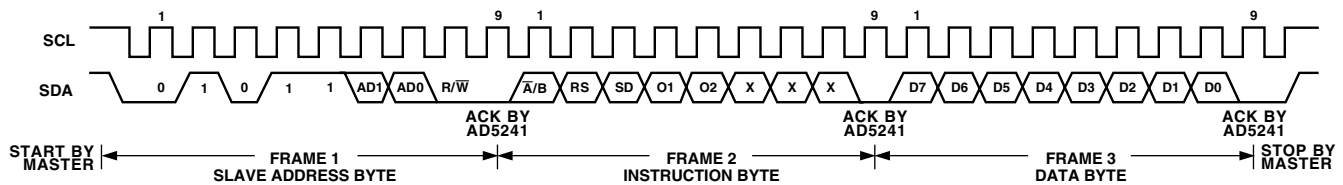
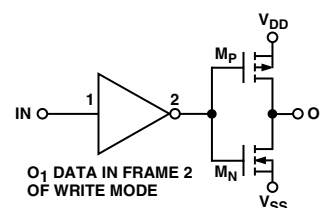

Figure 2. Writing to the RDAC Serial Register
Figure 7. Output Stage of Logic Output O_1
Referring to Figures 2 and 3, the first byte of AD5241/AD5242 is a Slave Address Byte. It has a 7-bit slave address and a R/ \overline{W} bit. The 5 MSBs are 01011 and the following two bits are determined by the state of the AD0 and AD1 pins of the device. AD0 and AD1 allow users to use up to four of these devices on one bus.
1. The master initiates data transfer by establishing a START condition, which is when a high-to-low transition on the SDA line occurs while SCL is high, Figure 2. The following byte is the Slave Address Byte, Frame 1, which consists of the 7-bit slave address followed by an R/ \overline{W} bit (this bit determines whether data will be read from or written to the slave device).
bits are O_2 and O_1 . They are extra programmable logic output that users can use to drive other digital loads, logic gates, LED drivers, and analog switches, etc. The three LSBs are DON'T CARE. See Figure 2.
- After acknowledging the Instruction Byte, the last byte in Write mode is the Data Byte, Frame 3. Data is transmitted over the serial bus in sequences of nine clock pulses (eight data bits followed by an "Acknowledge" bit). The transitions on the SDA line must occur during the low period of SCL and remain stable during the high period of SCL, Figure 2.
- When all data bits have been read or written, a STOP condition is established by the master. A STOP condition is defined as a low-to-high transition on the SDA line while SCL is high. In Write mode, the master will pull the SDA line high during the tenth clock pulse to establish a STOP condition (see Figure 2). In Read mode, the master will issue a No Acknowledge for the ninth clock pulse (i.e., the SDA line remains high). The master will then bring the SDA line low before the tenth clock pulse which goes high to establish a STOP condition (see Figure 3).
AD5241/AD5242 allows user to read back the RDAC values in Read Mode. However, for AD5242 dual channel device, the channel of interest is the one that is previously selected in Write Mode. In the case that users need to read the RDAC values of both channels in AD5242, they can program the first subaddress in the Write Mode and then change to the Read Mode to read the first channel value. After that, they can change back to the Write Mode with the second subaddress and finally read the second channel value in the Read Mode again. Note that it is not necessary for users to issue the Frame 3 Data Byte in the Write Mode for subsequent readback operation. Users should refer to Figures 2 and 3 for the programming format.
AD5241/AD5242 features additional programmable logic outputs, O_1 and O_2 , which can be used to drive digital load, analog switches, and logic gates. The logic states of O_1 and O_2 can be programmed in Frame 2 of the Write Mode (see Figure 2). Figure 7 shows the output stage O_1 where the logic levels are equal to the supply levels and the current driving capability reaches tenths of mA.